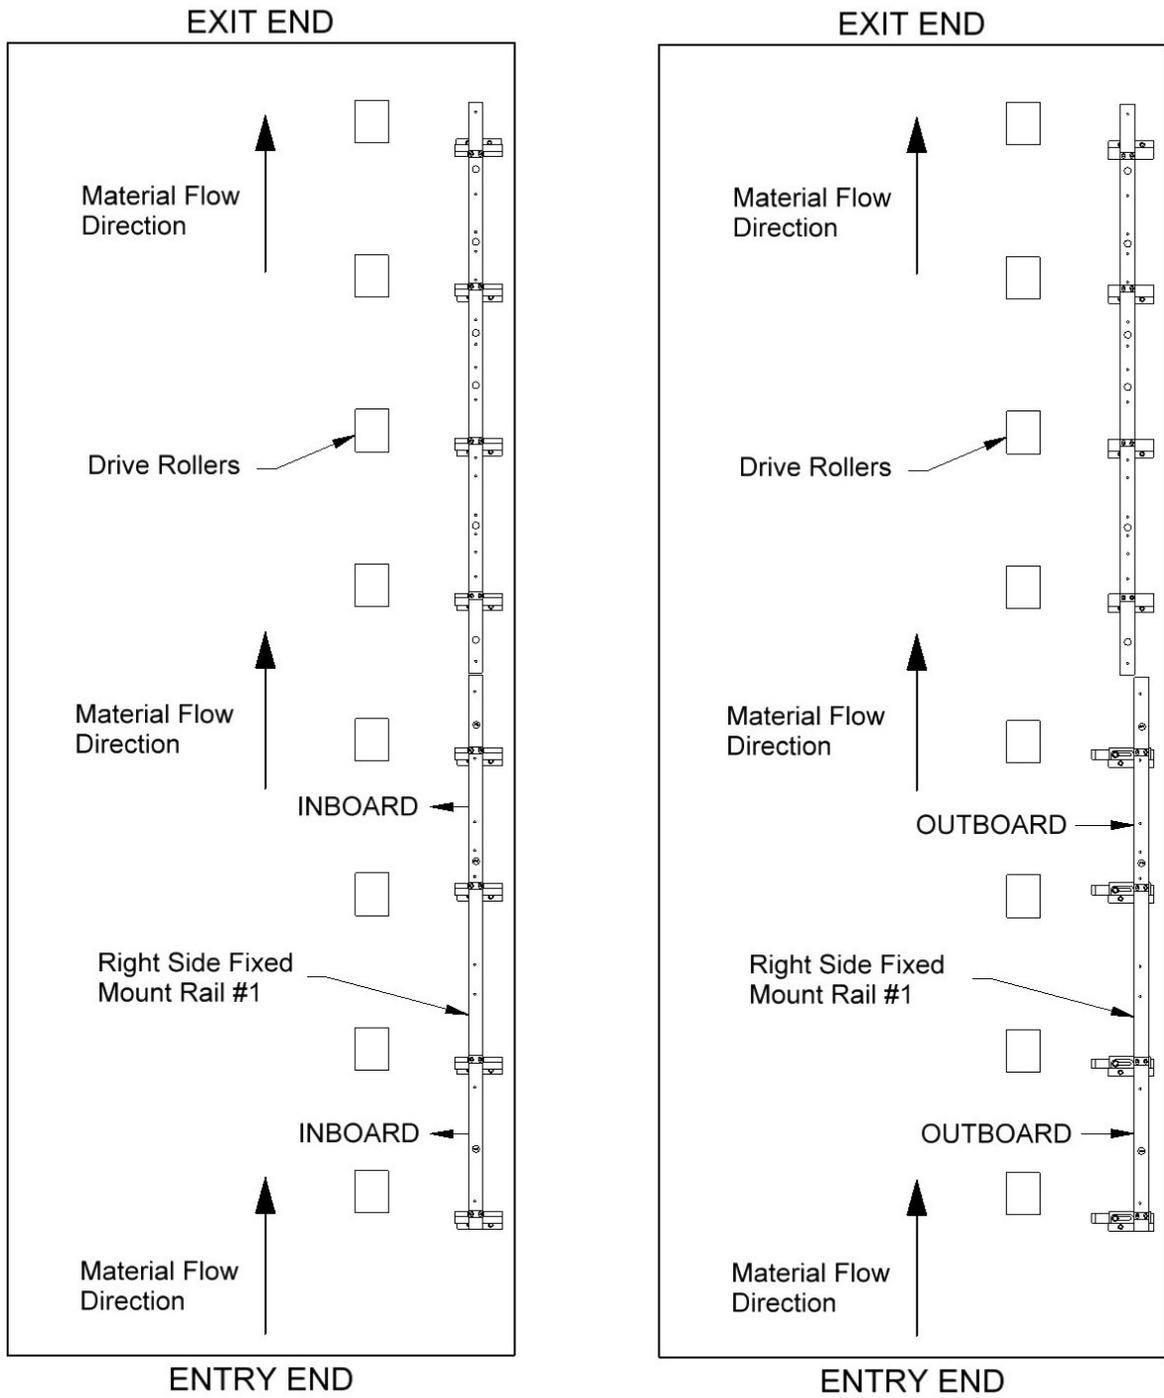

Figure 43: Inboard/Outboard Positions
3. Refer to the SSQ Slide Block chart (Figure 42) and find the profile that will be installed into the machine. The chart indicates if the Right Side Fixed Mount Rail #1 needs to be in the Inboard position or Outboard position (Figure 43).